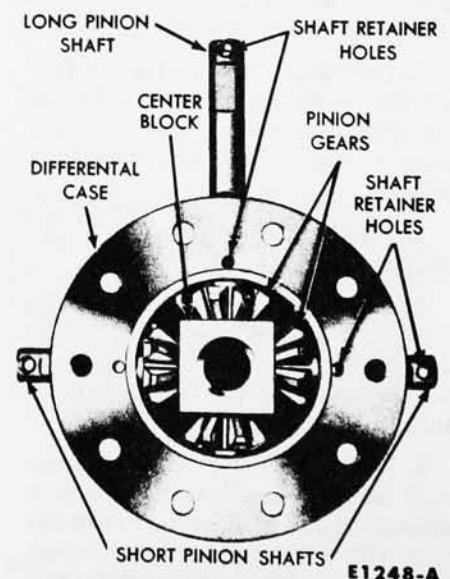

FIG. 23—Four-Pinion Differential
3. With a brass drift, drive out the long pinion shaft. Drive from the end opposite the retainer hole (Fig. 23).
2. Install the four thrust washers, and place the pinion gears on the side gear. Align the washers and pinion gears with the pinion shaft holes in the case (Fig. 23).
4. With a brass drift, drive in the two short pinion shafts from the outside of the case (Fig. 23). Be sure